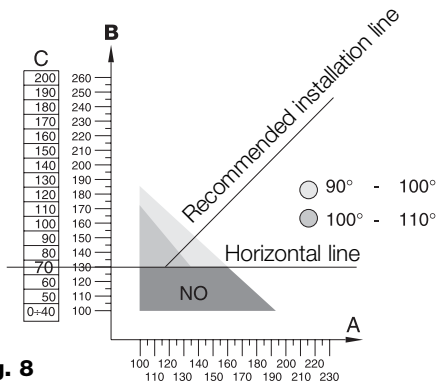

Fig. 8
- 1.2** Find the value of C in the graph of the relative MOBY model and draw a horizontal line (**fig.8**).